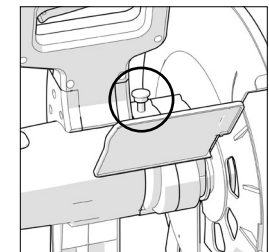

Fig. 3
- Engage the arbor lock by pressing the arbor lock button. **(Fig. 3)**